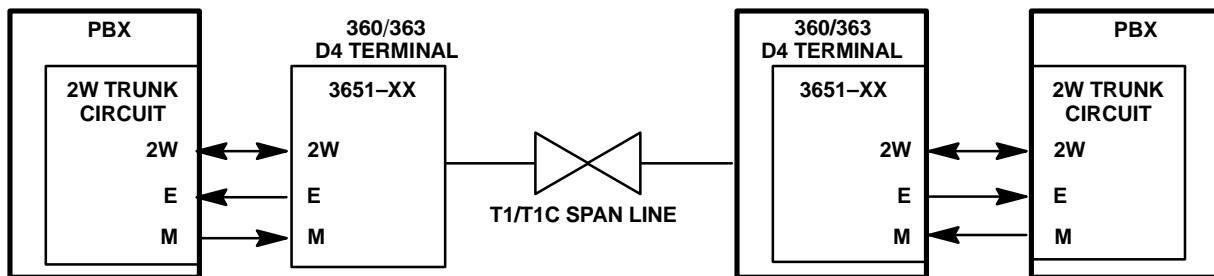

Figure 2. Typical 2-Wire E&M Application
A typical application is shown in Figure 2. The 3651–XX is used to provide interfacing between a PBX/CO 2-wire E&M port and a channel of a digital carrier facility. (A 3651–01 or 3651–61 would be provided for interfacing with a 900-ohm trunk, whereas a 3651–03 or 3651–63 would be provided for a 600-ohm trunk.) Nominal voice frequency (VF) levels at the 2-wire interface are –3dBm receive (output) and 0dBm transmit (input).